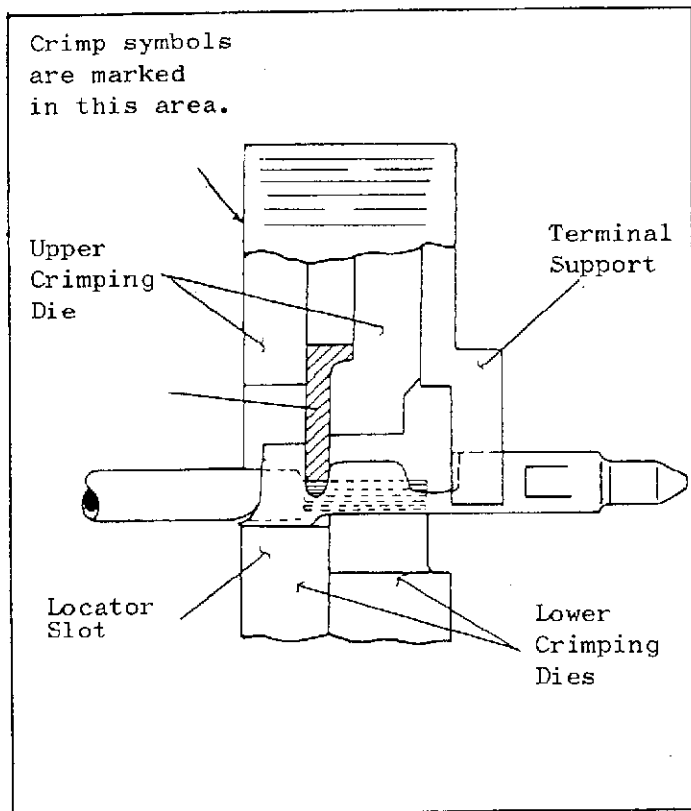

Fig. 3
- c) Looking straight into the crimping dies, insert a contact (wire barrel end first) into the dies from FRONT side of the tool. (See Fig. 3.)
- d) Position the contact in the crimpers, so that the locator stop enters the locator slot of the contact. (See Fig. 3.)
butts against the locator/insulation stop. (See Fig. 3.)